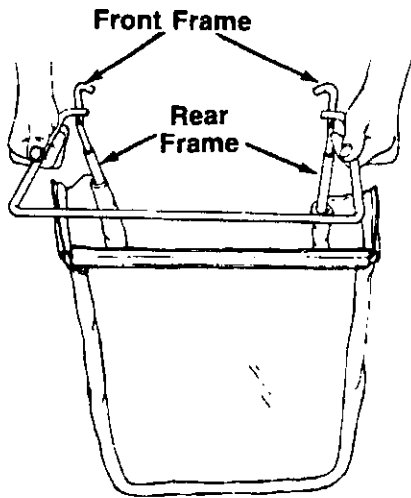

FIGURE 12.
2. Slide the ends of the front frame assembly into the ends of the rear frame as shown in figure 12.